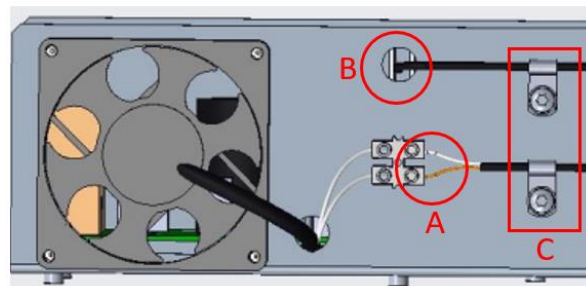

Fig.2.6
12. Connect the fan power supply cables to the terminal strip of the new inverter (Fig. 2.6/A).
13. Insert the communication cable through the hole **B** (Fig. 2.6).
14. Fasten the cables using the cable ties **C** (Fig. 2.6).